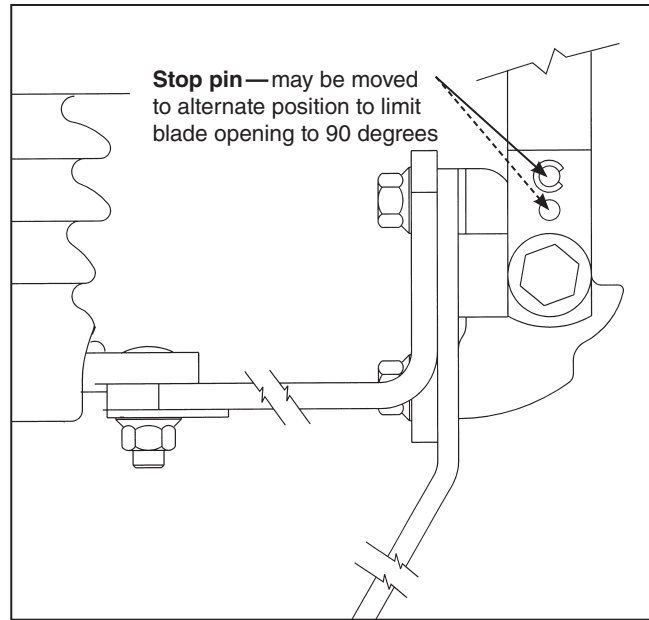

Figure 1. Location of stop pin.
- STEP 2.** Install blade stop pin in desired location. S&C Loadbuster Disconnect Switches—Overhead Pole-Top Style are furnished with a factory-installed blade stop pin, positioned for a 160-degree blade opening angle. This stop pin may be moved to limit the blade opening to 90 degrees. Remove the retaining ring from one end of the stop pin, and relocate pin to the alternate ¼-inch diameter hole nearest the hinge. Fasten the stop pin by pressing the retaining ring over the end of the stop pin until the ring snaps back into the groove provided. See Figure 1.